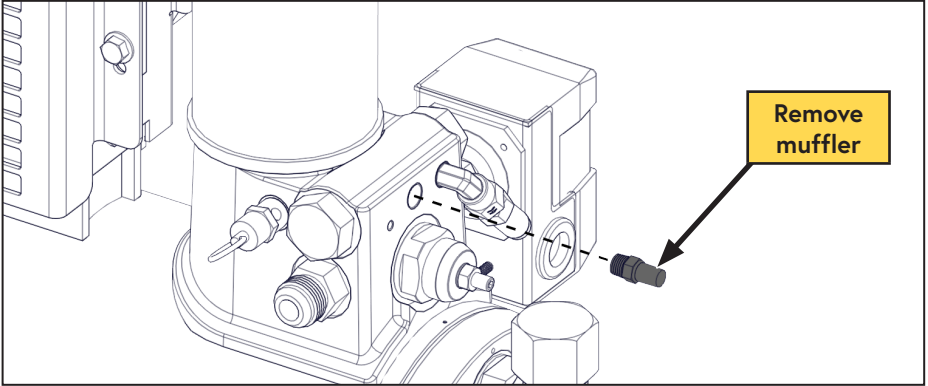

Figure 41 — Remove blowdown muffler
- Remove the blowdown muffler from the side of the WHASP Tank (below the coalescing filter) (Figure 41).